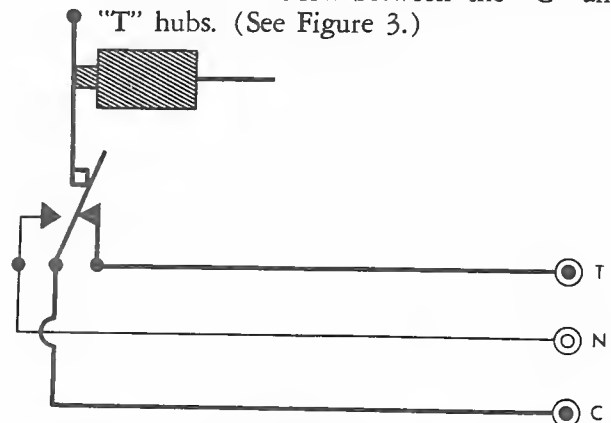

Figure 3.
2. If the magnet is energized, the selector is said to be TRANSFERRED OR CONTROLLED. In this condition, there is an internal connection between the "C" and "T" hubs. (See Figure 3.)